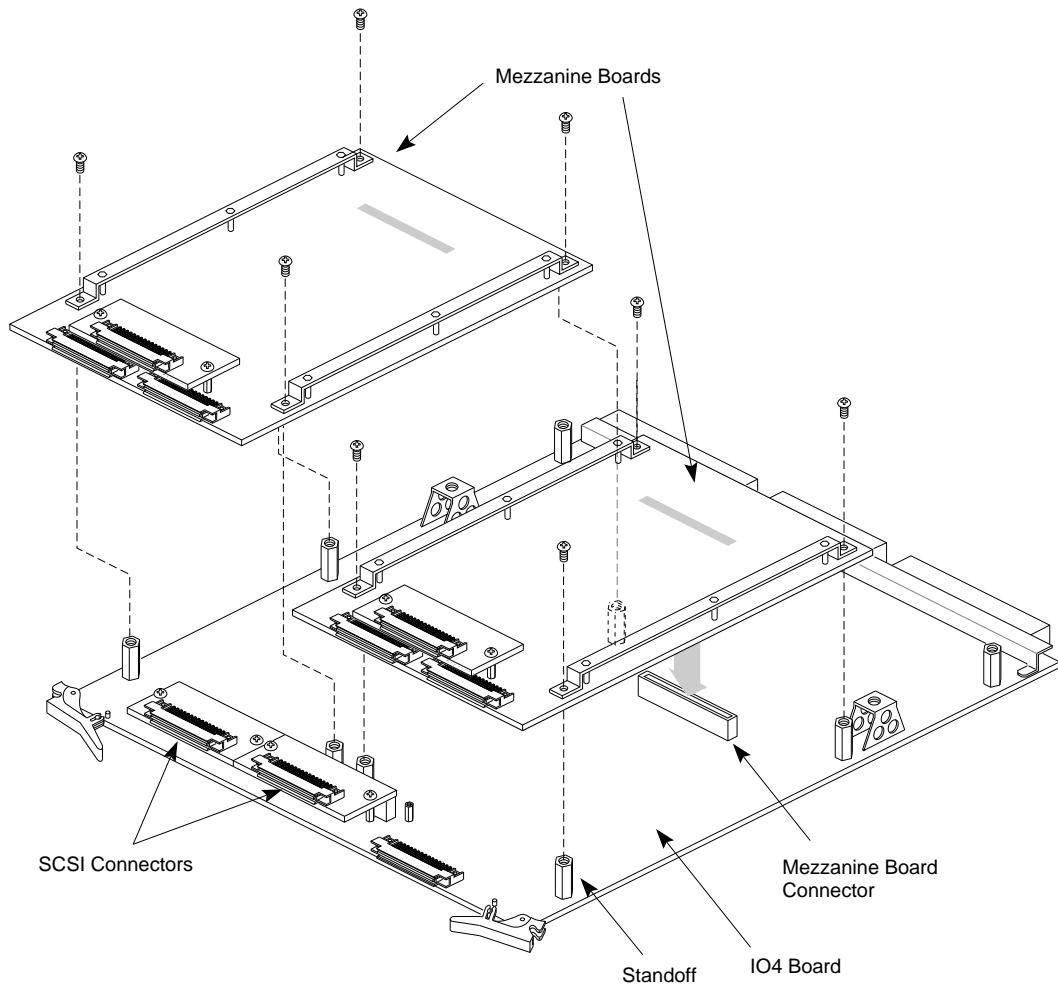

Figure 5-86 Installing a Mezzanine Board
1. Orient the board so that the I/O channels face the same direction as the IO4 baseboard channels, then line the holes on each corner of the mezzanine board with the applicable standoffs (see Figure 5-86).